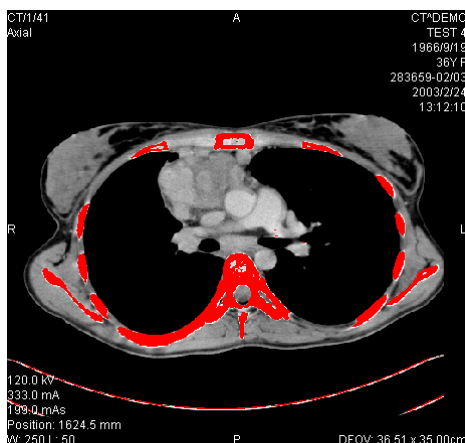

Figure 255 – Segmented image with threshold selection, contouring bones
4. Select the **Lower** and **Upper** grayscale values for the search process. All grayscale values within the selected threshold value range will be considered as matching. This can be seen in the current view – the matching regions are displayed in red while the remainder appears in black (see Figure 255).